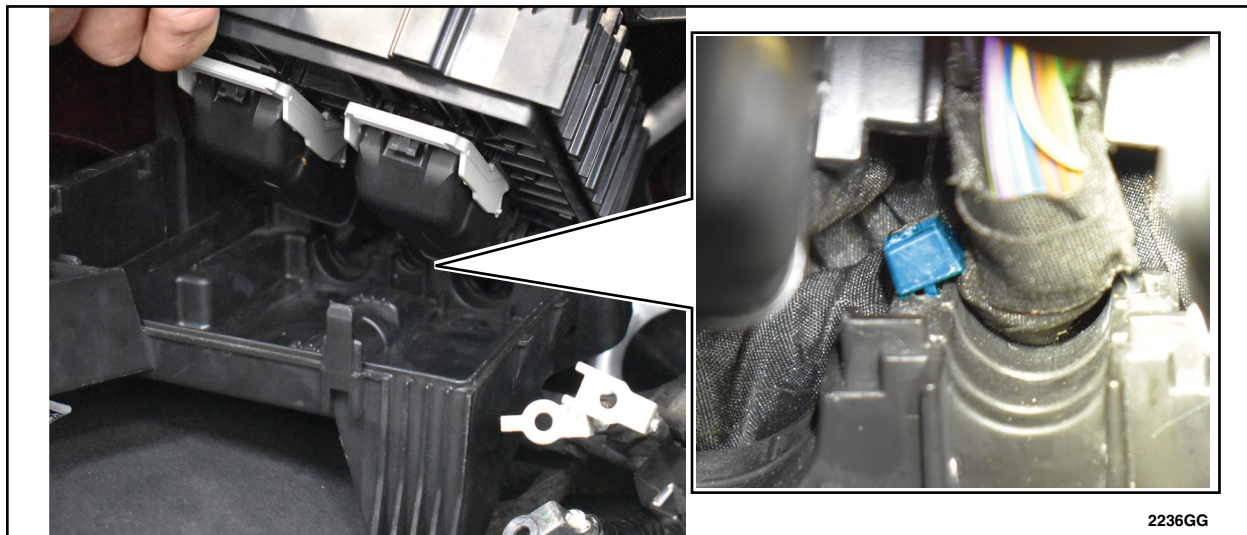

FIGURE 53
A. Ensure that the zip tie connecting the middle wire harness to the lower portion of the BJB is replaced. See Figure 53.